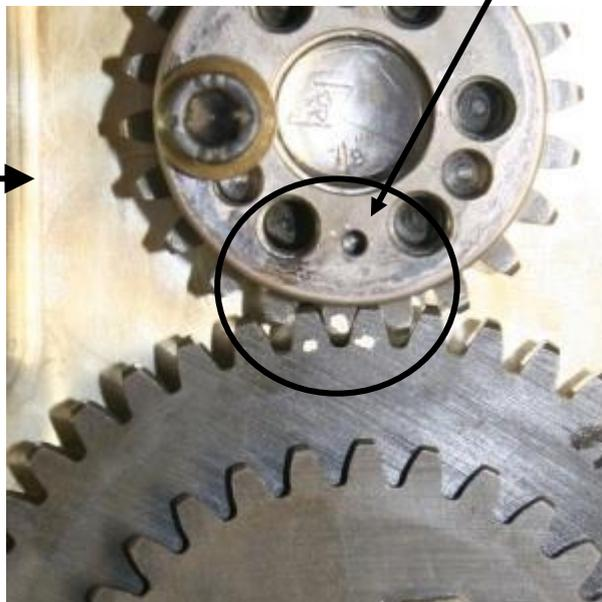

Figure 167 – Setting Cam Timing
The bead should be applied **22mm** down from the flywheel attachment face (see Figure 167).
- The camshaft drive gear can now be fitted to the end of the crank as shown in Figure 167 – so that the tooth on the crankshaft gear with the timing mark is between the two teeth of the cam gear with timing marks.
- Start with the engine positioned at TDC (i.e. piston #1 is fully extended out and the timing marks on the crank gear and camshaft timing gear are meshed as shown in Figure 167)